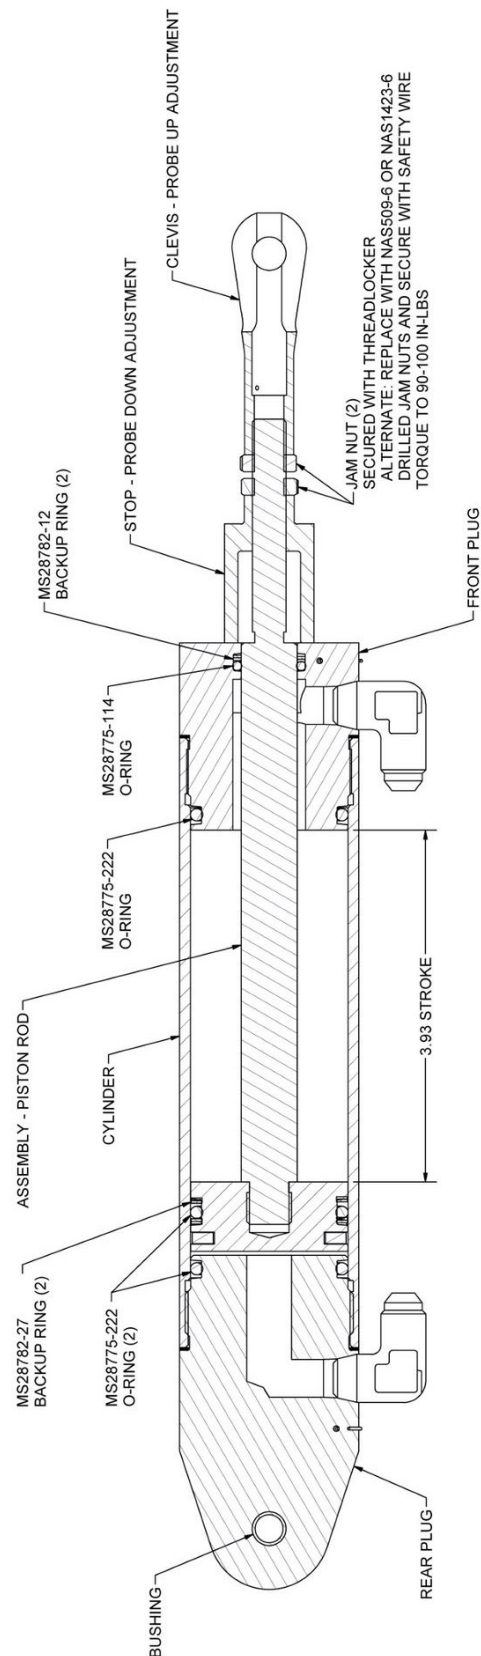
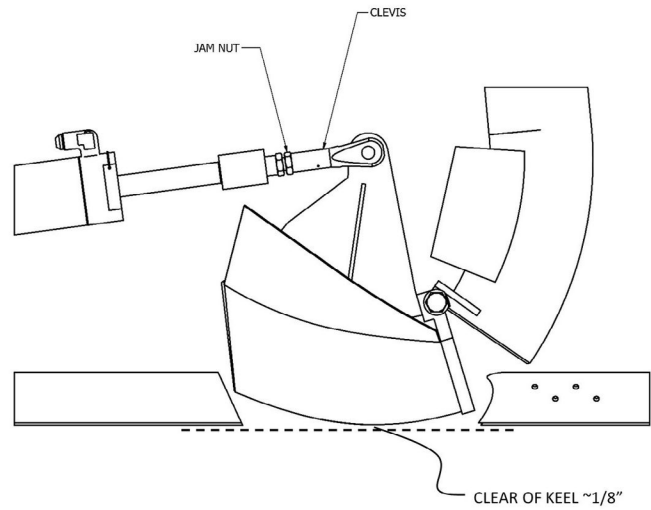

FIGURE 4.2A ASSEMBLY – CYLINDER PROBE JACK
FIGURE 4.2B – PROBE UP POSITION ADJUSTMENT
The lower probe assembly is set at the factory for full open and close positions. Any adjustment necessary to the probe is accomplished by adjusting the probe jack cylinder. Figure 4.2A shows a cross section of the cylinder. Figures 4.2B and 4.2C illustrate the setting of the up and down positions, respectively. Set the up position first. Begin by extending the cylinder shaft with hydraulic pressure to ensure full extension. While extended, the clevis should bolt to the probe when the bottom of the probe is clear of the float keel by approximately 1/8". Turn the clevis as necessary to meet this condition. Once the up position is set, the down position is set by adjusting the stop collar. The stop collar should meet the cylinder body when the top/inner surface of the probe is flush with the float keel. The hydraulic lines may be disconnected to facilitate adjusting and checking the down position by hand. Apply Loctite 290 (green) threadlocker or equivalent to both jam nuts and torque to 90-100 in-lbs. Jam nuts may alternatively be NAS509 or NAS1423 drilled jam nuts to be secured with safety wire. After adjustment reconnect hydraulic lines as needed and cycle probe for proper operation. Check if probe up and down position lights are operating properly.
Figure 4.2A shows a cross section of the hydraulic probe cylinder. Replace “O” rings if cylinder shows signs of leaking. Check for security of the jam nuts against the clevis and stop collar. If needed, apply Loctite 290 (green) threadlocker or equivalent and torque jam nuts to 90-100 in-lbs. Jam nuts may alternatively be NAS509 or NAS423 drilled jam nuts to be secured with safety wire. A gasket is between upper probe and internal tube at connecting clamp. Replace if necessary. Check condition of connecting hose and clamps above float deck (2) each side. Inside of aircraft tank on each inlet tube there is a rubber flapper valve or a platypus type valve. Check if valve is closing tight and condition of valve. Replace if necessary.